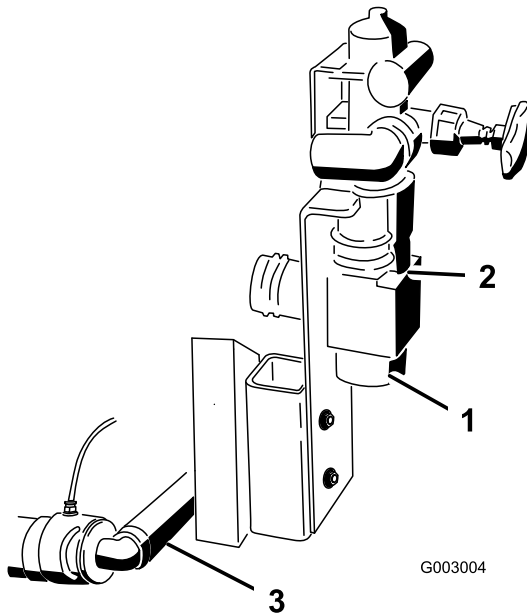

Figure 13
1. Look in the opening under the control valve and ensure that the opening in the white ball valve is open toward the bottom (Figure 13).
5. Install the short hose assembly to the bottom of the control valve and to the boom supply valves, securing it with one previously used retainer and one new retainer (Figure 13).
1. Wrap Teflon tape counterclockwise around the threads of the gauge and install the reducer fitting onto the gauge (Figure 13).